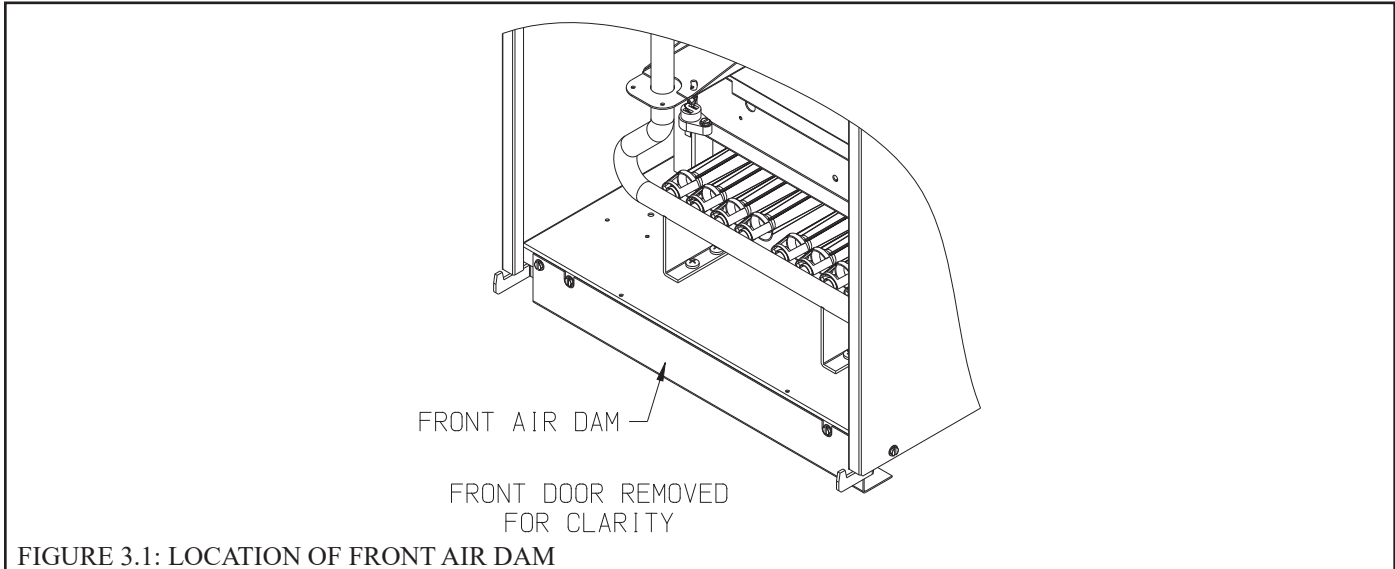

FIGURE 3.1: LOCATION OF FRONT AIR DAM
- Assure that Front Air Dam (Figure 3.1) is in place and undamaged. A damaged front air dam will negatively affect the performance of this boiler, which can cause serious property damage, personal injury or death.